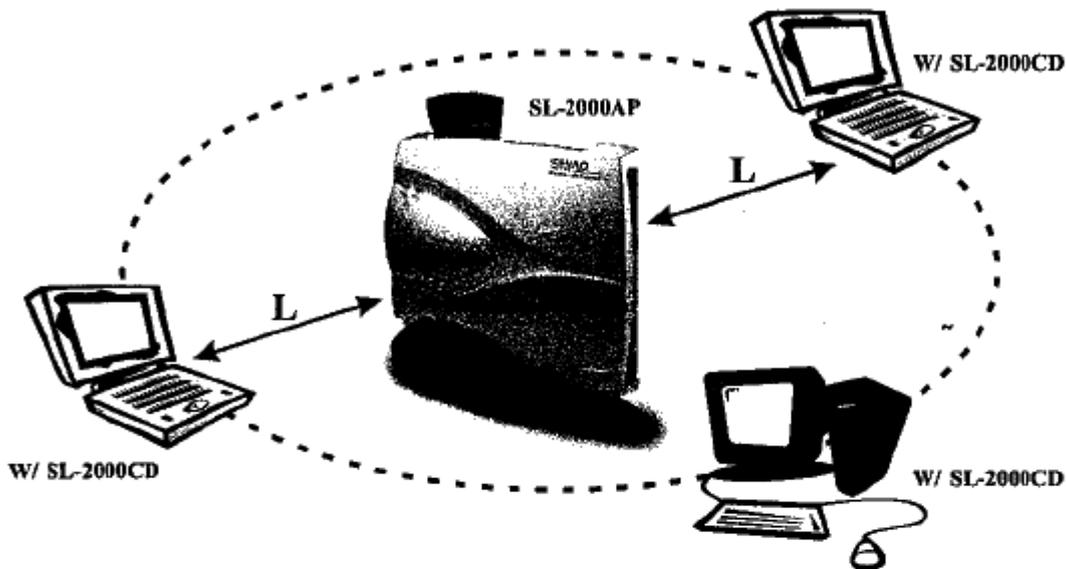

Figure 1-3 Extended-range independent WLAN using AP as repeater
The infrastructure mode requires the use of an access point (AP). In this mode, all wireless communications between two computers have to be via the AP no matter the AP is wired to Ethernet network or stand-alone. If used in stand-alone, the AP can extend the range of independent wireless LANs by acting a repeater, which effectively doubling the distance between wireless stations as shown in Figure 1-3.